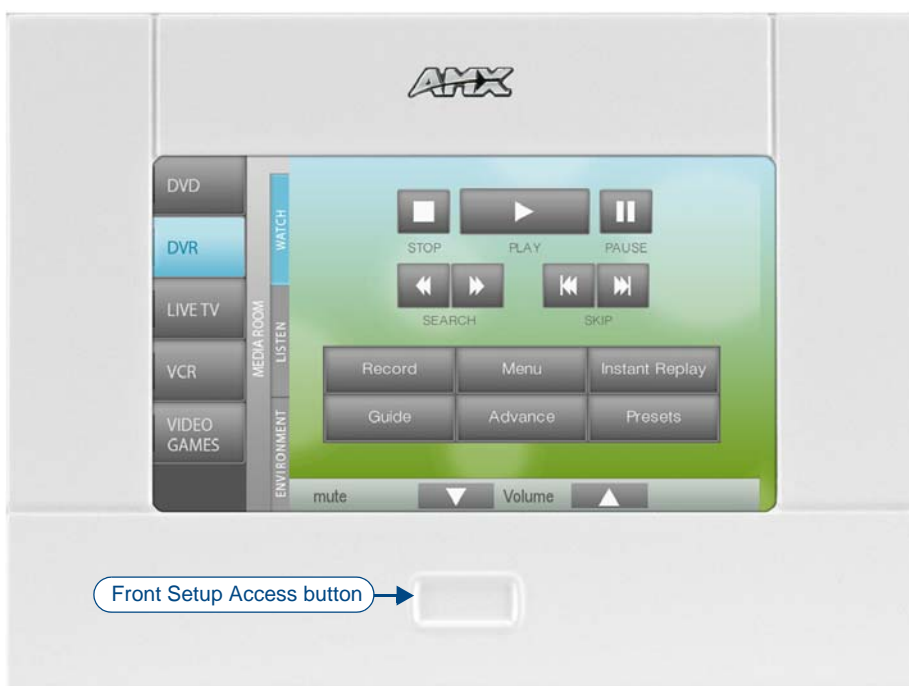
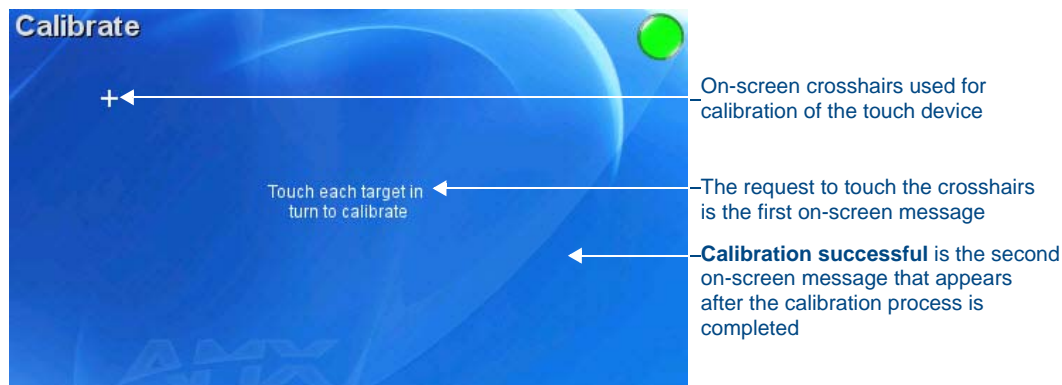

FIG. 16 NXD-430 Modero Wall/Flush Mount Touch Panel
FIG. 17 Touch Panel Calibrate Screens
1. Press and hold the **Front Setup Access** button (FIG. 16) for **9 seconds** to pass over the *Setup* page and access the *Calibrate* page (FIG. 17).
2. Press the crosshairs (on the *Calibrate* page) to set the calibration points on the LCD (FIG. 17).